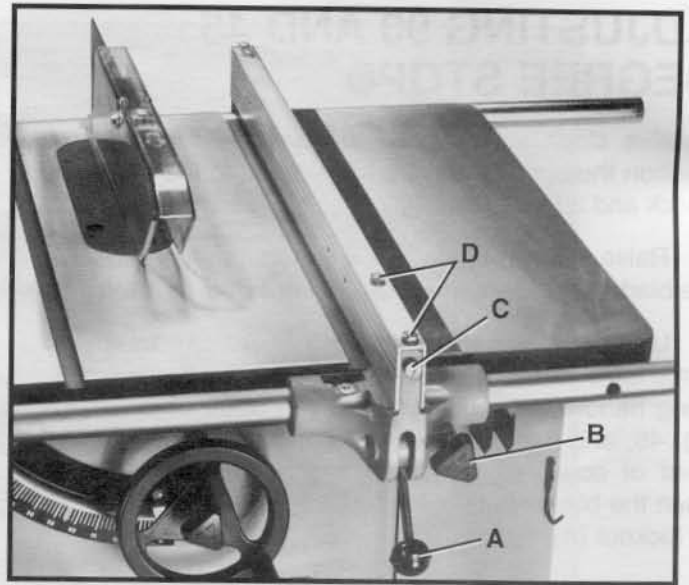

Fig. 50
To move the rip fence, raise the clamp lever (A) Fig. 50, as far as it will go and move the fence to the desired position on the table. For fine movement of the rip fence, raise the clamp lever (A) Fig. 50, as far as it will go and push in and turn the "micro-set" knob (B).
When the clamp lever (A) Fig. 50, is all the way down, clamping action on the front and rear guide rails should be equal. If clamping action on the rear guide rail is more or less than the clamping action on the front guide rail, an adjustment of the rear clamp hook is made by turning screw (C) Fig. 50. Turning the screw (C) clockwise will increase tension, and turning it counterclockwise will decrease tension. When lowering clamp lever (A) slowly, you will notice clamp action on front guide rail first, and as lever is moved downward to its lowest position, clamp action will take place on rear guide rail.
Your machine is shipped from the factory with the table adjusted so that miter gage slots are parallel to the saw blade. (See section "ADJUSTING TABLE"). The fence, therefore, should be adjusted so it is parallel to the miter gage slots. To check the rip fence, set it along one side of the miter gage slot as shown in Fig. 50, and tighten the clamp lever (A). If an adjustment is necessary, loosen the two front cap screws (D). Move the rear end of the fence body to one side or the other until it is parallel with the miter gage slot. Then tighten the cap screws (D).